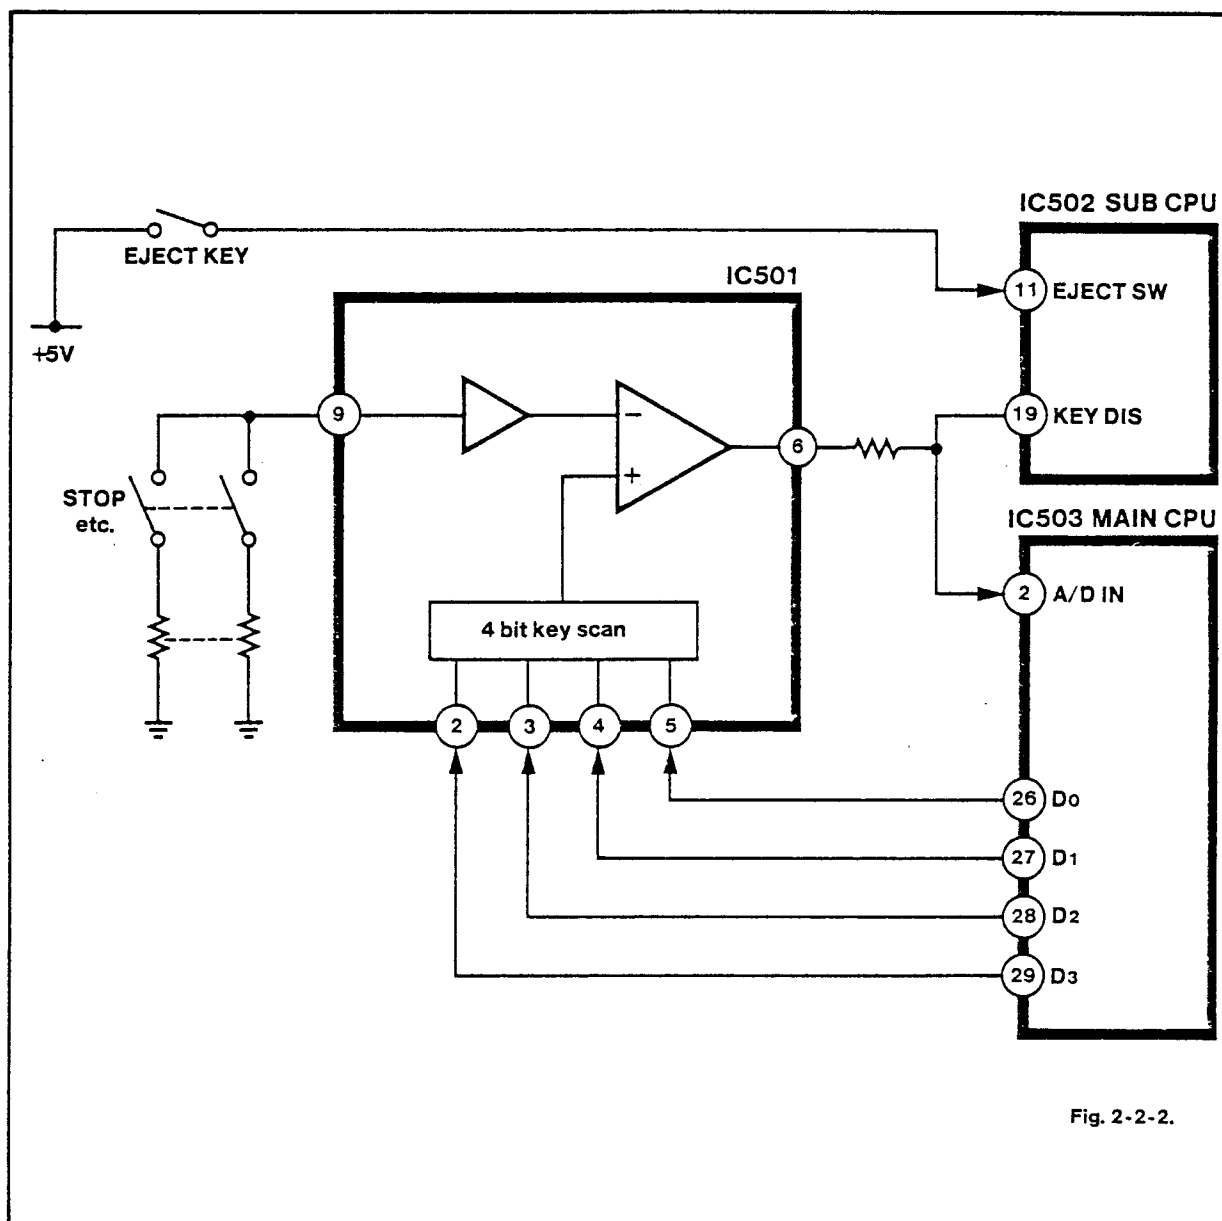

Fig. 2-2-2.
1. INPUT KEY DETERMINATION CIRCUIT (See Fig. 2-2-2 and 2-2-3)